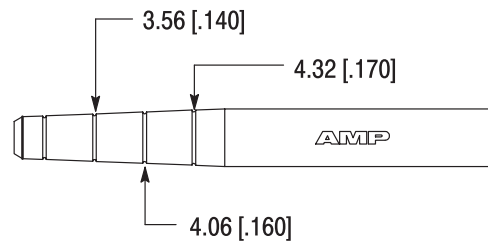

Figure 2
2. For cable having an outer diameter between 2.54 [.100] and 4.32 [.170], cut strain relief, using the KEVLAR shears, at the appropriate segments shown in Figure 2.